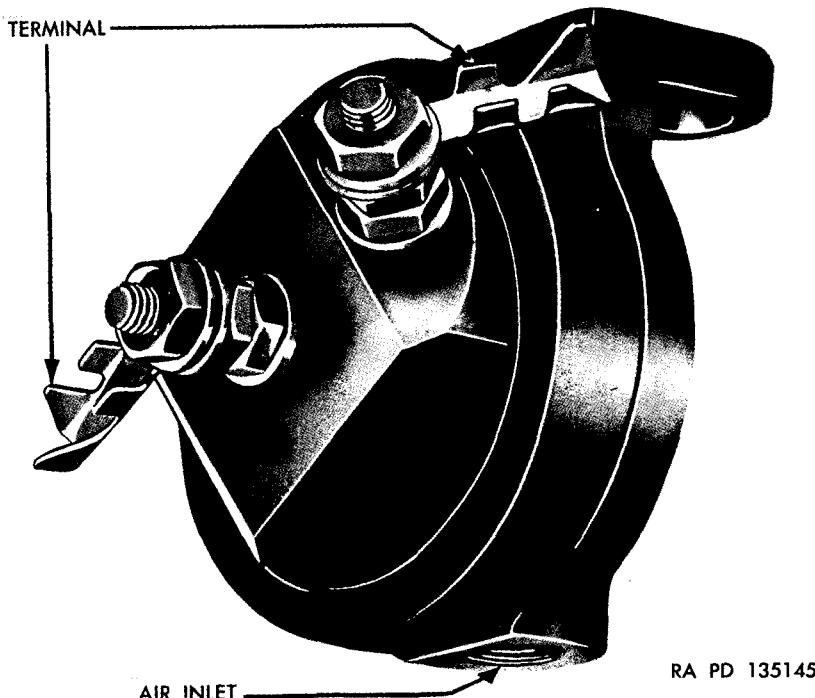
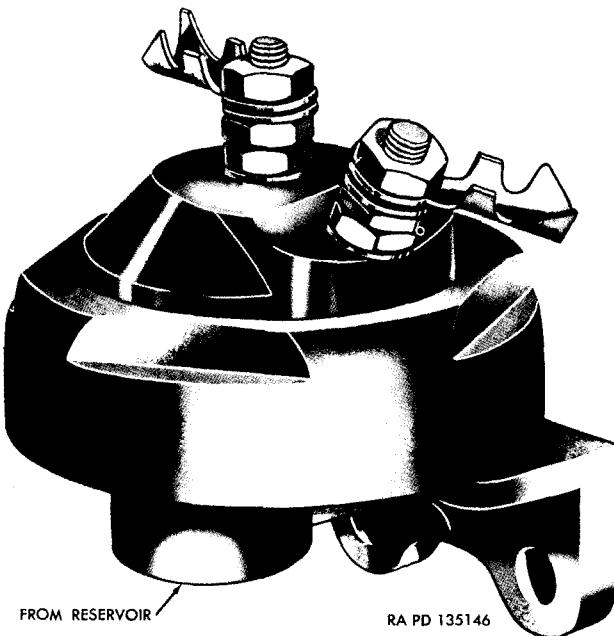
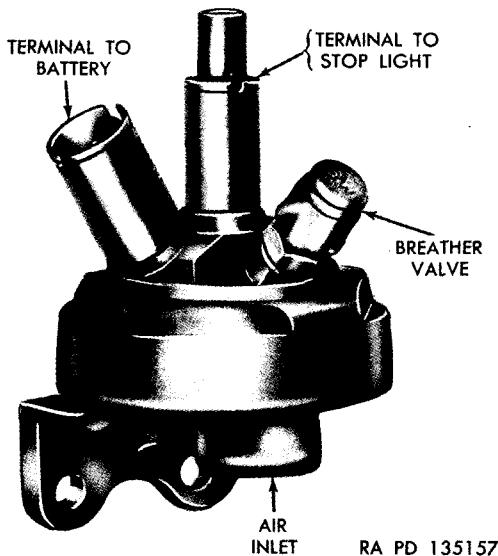

Figure 224. Type SL-1 stop light switch.
Figure 225. Type SL-2 stop light switch.
Figure 226. Type SL-2 stop light switch (waterproof).
b. Types. Two types of switches may be found in service, type SL-1 and type SL-2. Both are identical in operation and differ only in construction details. The original type, SL-1 (fig. 224) has a threaded cover and the air inlet is in the side, opposite the mounting bracket. In the later type, SL-2 (fig. 225), the cover is clamped to body by a cover nut, and air inlet is in bottom of body. Type SL-2 is also available in waterproof construction (fig. 226). Waterproof terminal connections are used, and a breather valve is installed in cover. All other parts are the same.